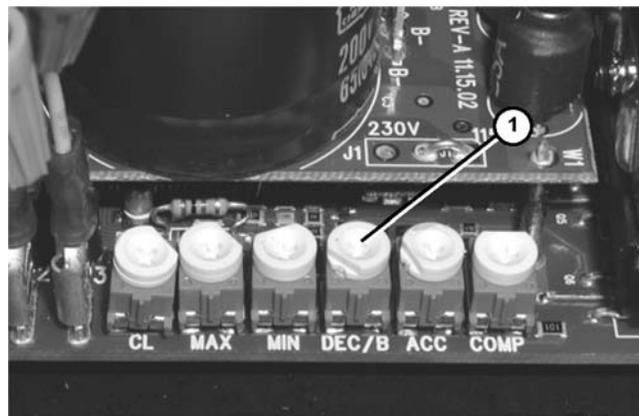

Figure 62
1. Turn counter clockwise (**Figure 62, item 1**) to reduce the time it takes to ramp down to a stop. For more details please refer to Bodine's Instructions for Installation and Operation Manual section Adjust Trim Pots.